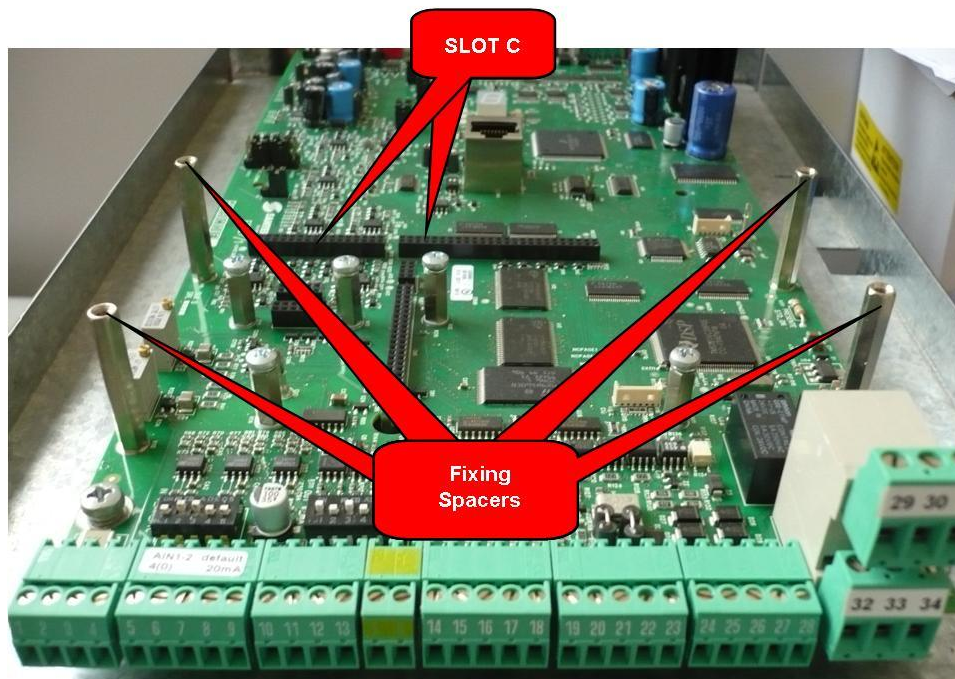
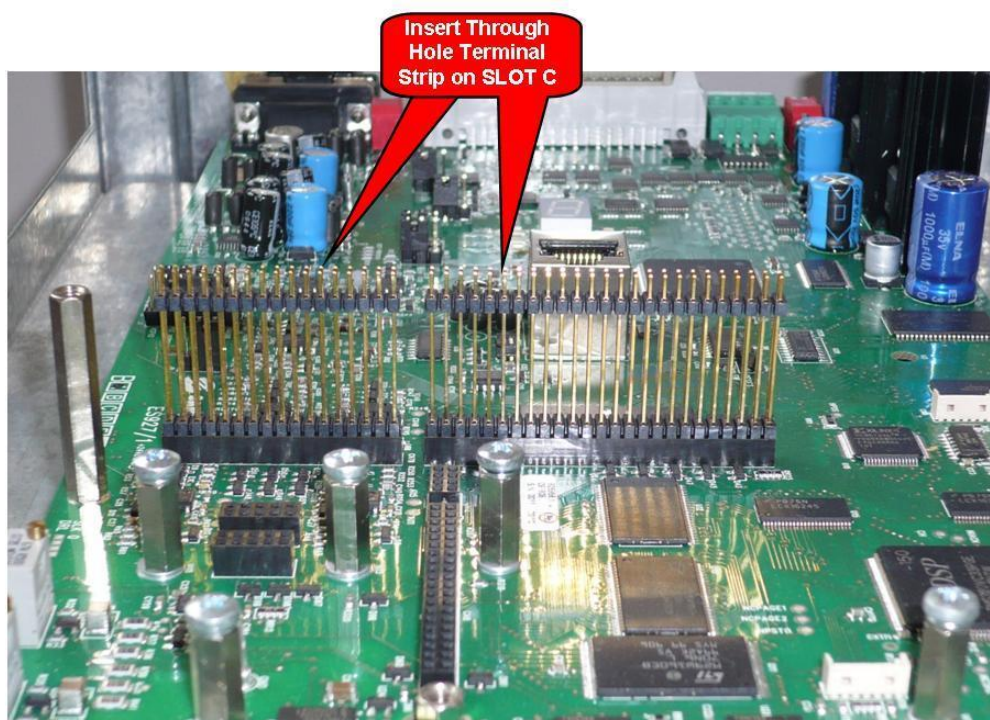
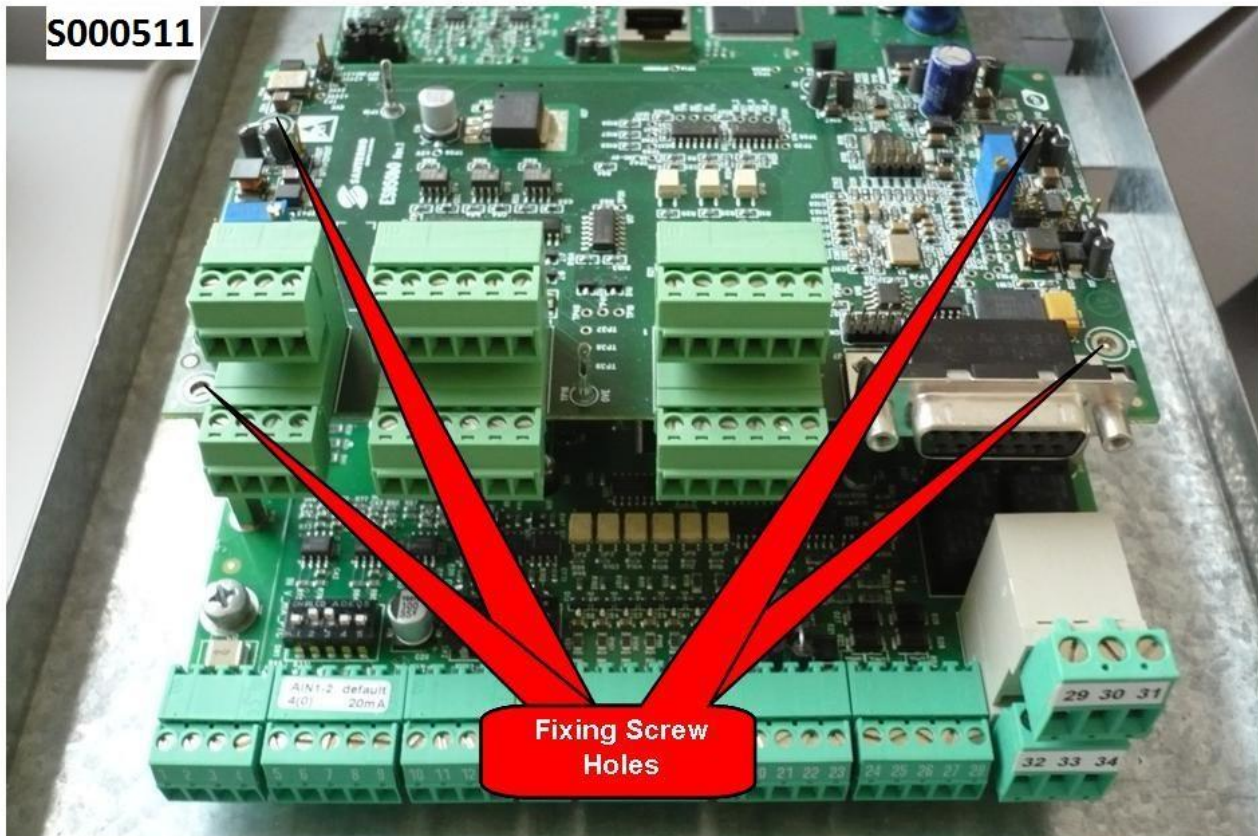

Figure 159: Location of slot C inside the terminal board cover of the drive
Figure 160: Inserting terminal strips to slot C
Figure 161: Fixing the ES966 board inside the drive
4. Insert the ES966 board into Slot C. Make sure that the terminal strips with the two connectors in slot C (CN7A and CN7B) are correctly aligned. See Figure 159, Figure 160 and following figures. If the board is properly installed, the four fixing holes are aligned with the housing of the relevant fixing spacers screws. Check if alignment is correct, then fasten the four fixing screws as show in Figure 161.